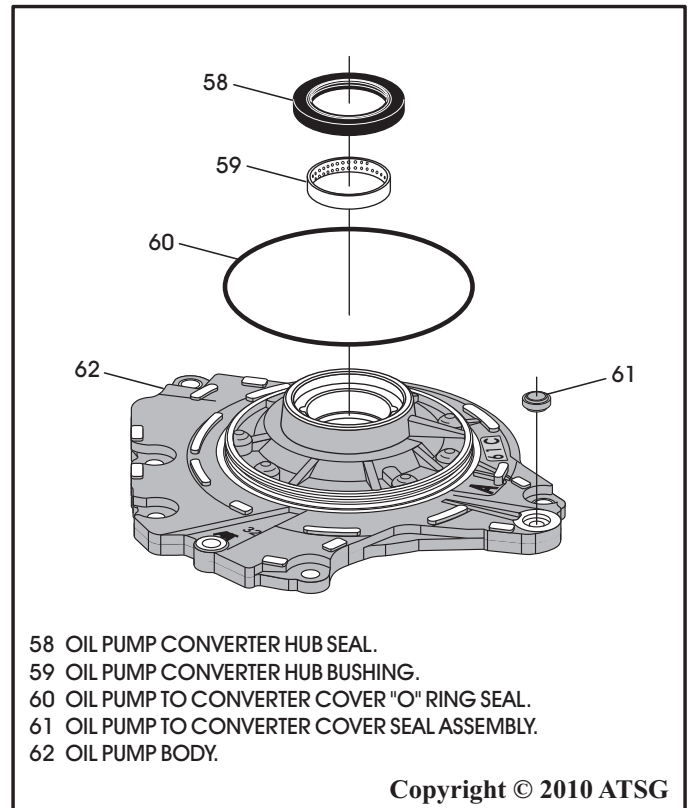

Figure 97
5. Install new pump body to converter housing "O" ring seal, as shown in Figure 97, and lube with small amount of Trans-Jel®.
6. Install new pump body bushing as necessary using the proper driver (See Figure 97).
7. Install new converter hub seal into pump body, as shown in Figure 97, using proper driver.
8. Install new pump body to converter cover seal (61), as shown in Figure 97, and retain with a small amount of Trans-Jel®.